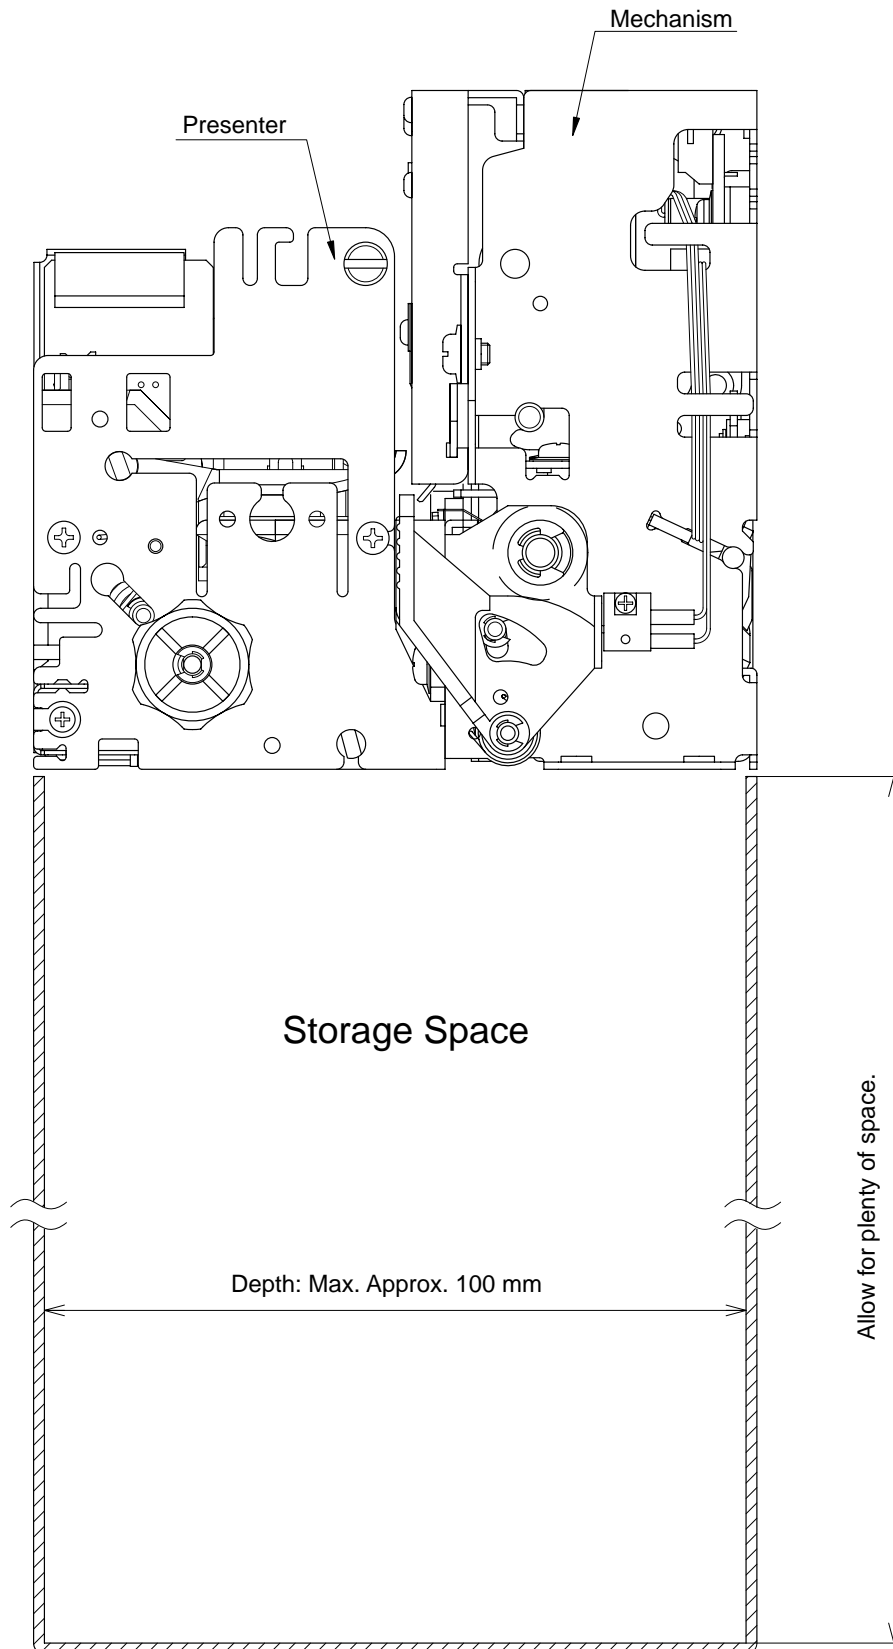

Figure 10-2
- 2) Storage space for the recovery of recording paper should consider the length of the recording paper and degree of curling to all plenty of space. It is recommended to ensure approximately 100 mm or more space for storage depth. (See Figure 10-2)